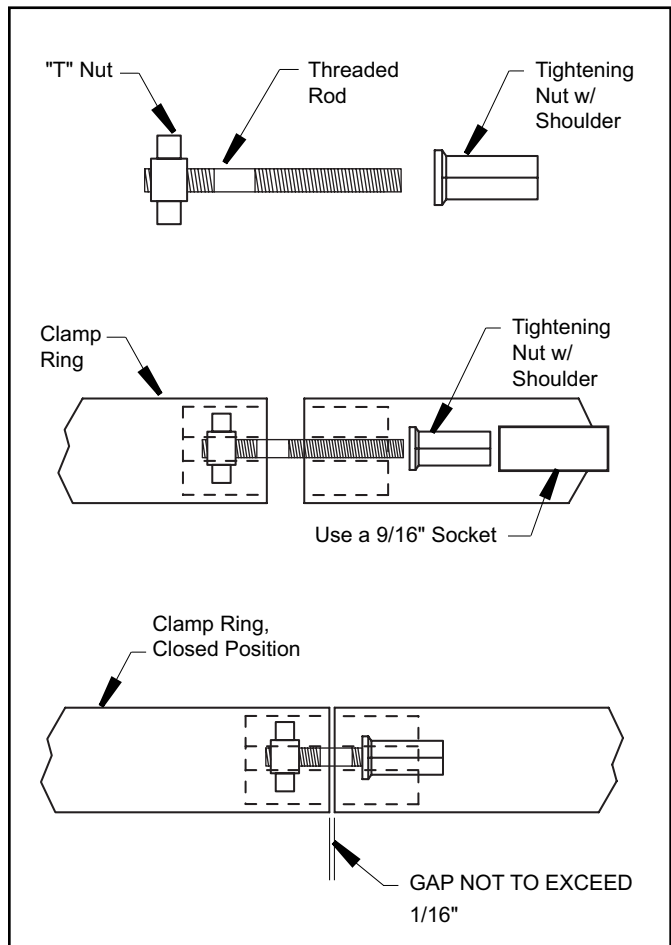

Figure 6. Filter Clamp Ring Assembly
3. Place the "T" nut and threaded rod assembly into the clamp. Be sure the "T" nut is seated in the clamp in the proper orientation (See Fig. 6).
4. Use a 9/16" socket on the tightening nut until the clamp ring halves touch each other, or are within 1/16" (See Fig. 6) **but do not overtighten as the clamp can break**. If unable to tighten as indicated, do not operate the filter and **call a service technician immediately**.